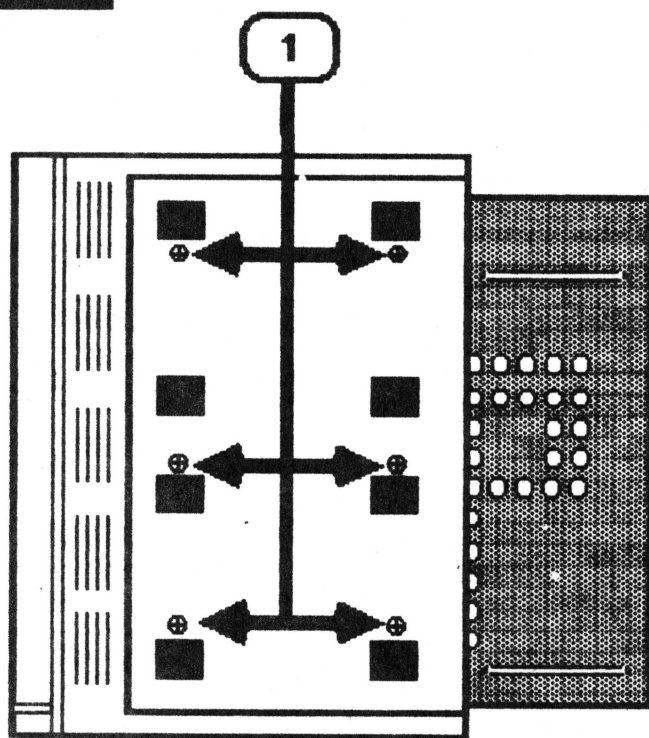

FIGURE 16
8. Carefully place the monitor on its left side and remove the six screws shown in Figure 16, #1.